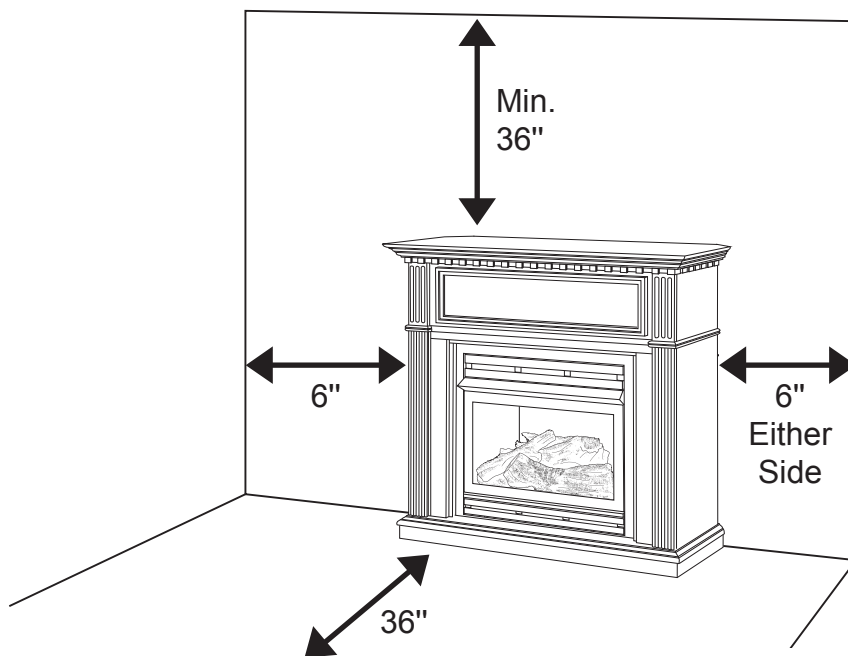

Fig. 6 - Minimum Clearance to Combustible Material
IMPORTANT: Maintain the minimum clearances shown in Figure 6 on page 12. If you can, provide greater clearances from floor, ceiling and joining wall.
A. Clearances from the side of the fireplace cabinet to any combustible material and wall should follow diagram in Figure 6.
The installer must supply an external regulator for liquid propane. The external regulator is provided by the gas supplier for natural gas. The external regulator will reduce incoming gas pressure. You must reduce incoming gas pressure to between 11 and 14 in. of water column for propane and between 5 and 10.5 in. of water column for natural gas. If you do not reduce incoming gas pressure, heater regulator damage could occur. Install external regulator with the vent pointing down as shown in Fig. 6. Pointing the vent down protects it from freezing rain or sleet.